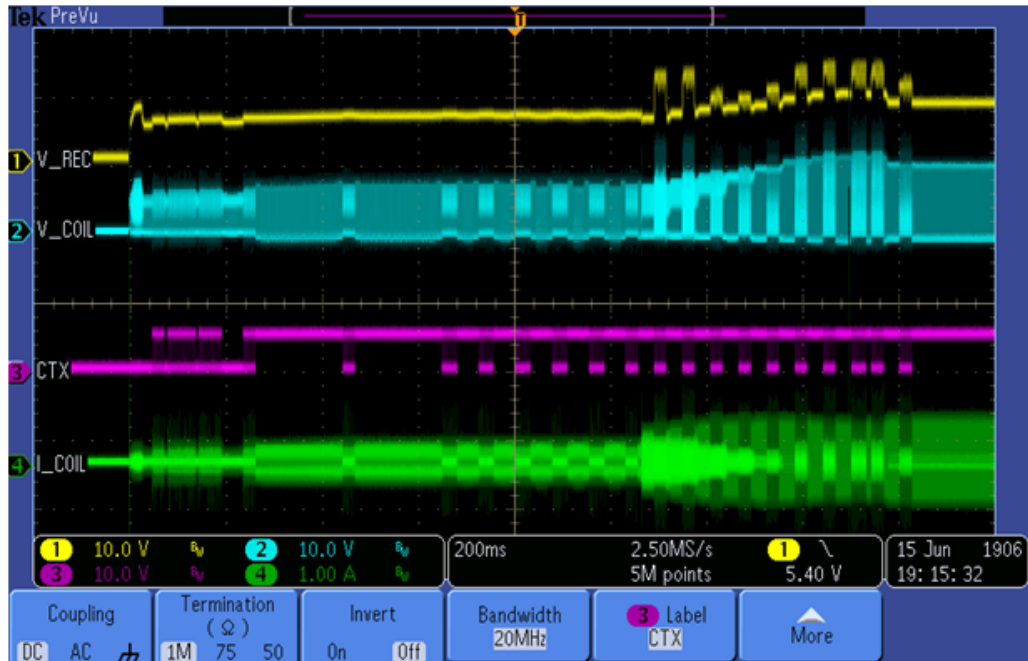

Figure 38. Ping process of the wireless power receiver
1. Figure 38 shows the input voltage and communication signal from ping phase to power transfer setup.